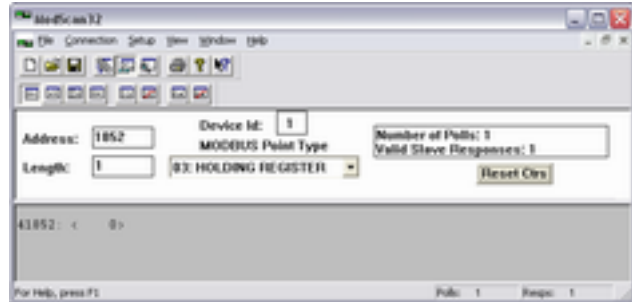

Fig. 306: Modscan32 at address 41852
- ➔ Set the configuration to address parameter 1851 as shown in (Fig. 306).